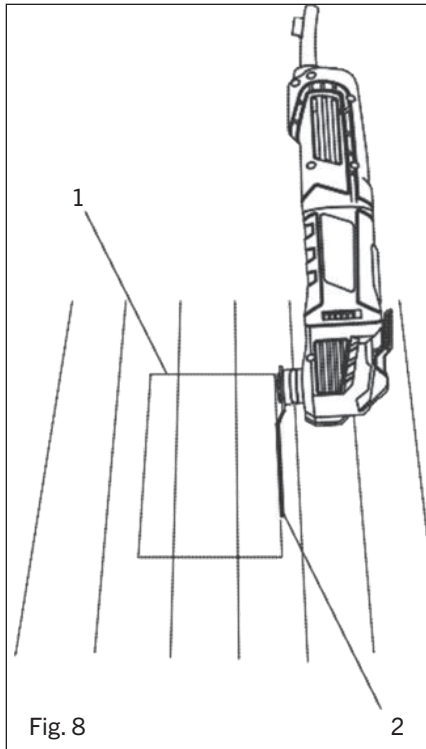

Fig. 8
The speed of the tool can be adjusted to run the tool at speeds varying between 11,000 OPM and 21,000 OPM by rotating the speed control wheel (1) located toward the rear of the tool housing (Fig. 8).